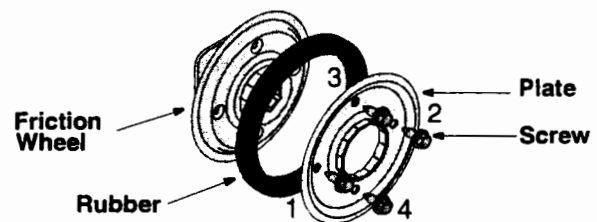

Figure 30
- Reassemble new bonded friction wheel rubber to the friction wheel assembly, turn each screw approximately 2 turns in order shown in Figure 30 until screws are tight. It is important for the rubber to be assembled symmetrically.